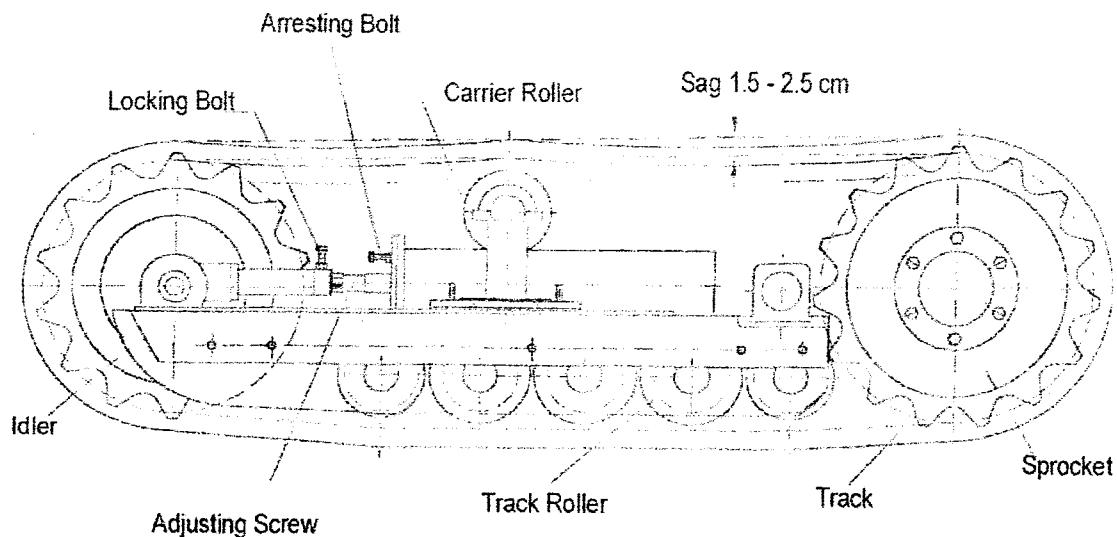

Fig. 11 Track Tension Adjustment
When properly adjusted, tracks should have a sag of 1.5 to 2.5 cm (2/3 to 1 inch) as measured at a point half way between the carrier roller and drive sprocket. See Fig. 11.
1. Drive the tractor forward onto hard, level ground with the portion of track on the ground being straight and taut. The upper portion of the track should sag as in Fig. 11.